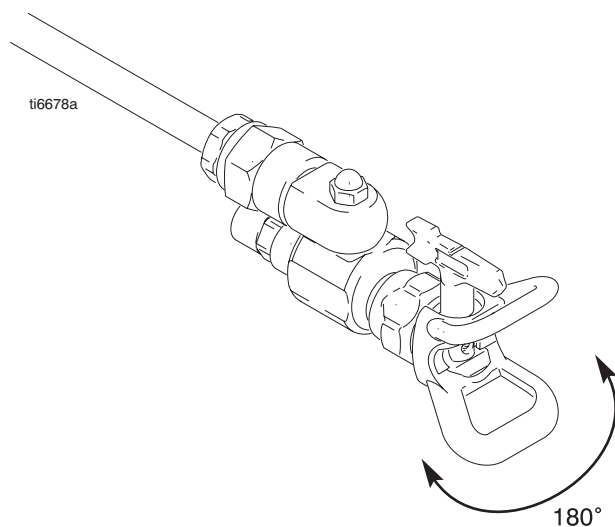
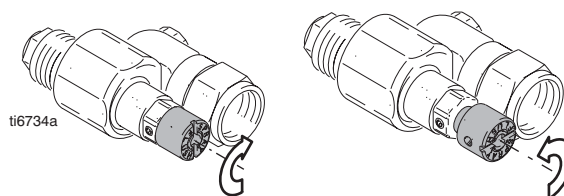

Fig. 1 _____
Fig. 2 _____
Installing the Tip and Guard (Fig. 1 and Fig. 2)
- 1 Without the spray tip installed, start sprayer, turn the knob on the Low Overspray CleanShot Valve counter-clockwise to the FLUSH position (Fig. 2).
- 5 Turn the knob of the Low Overspray CleanShot Valve to SPRAY (Fig. 2).